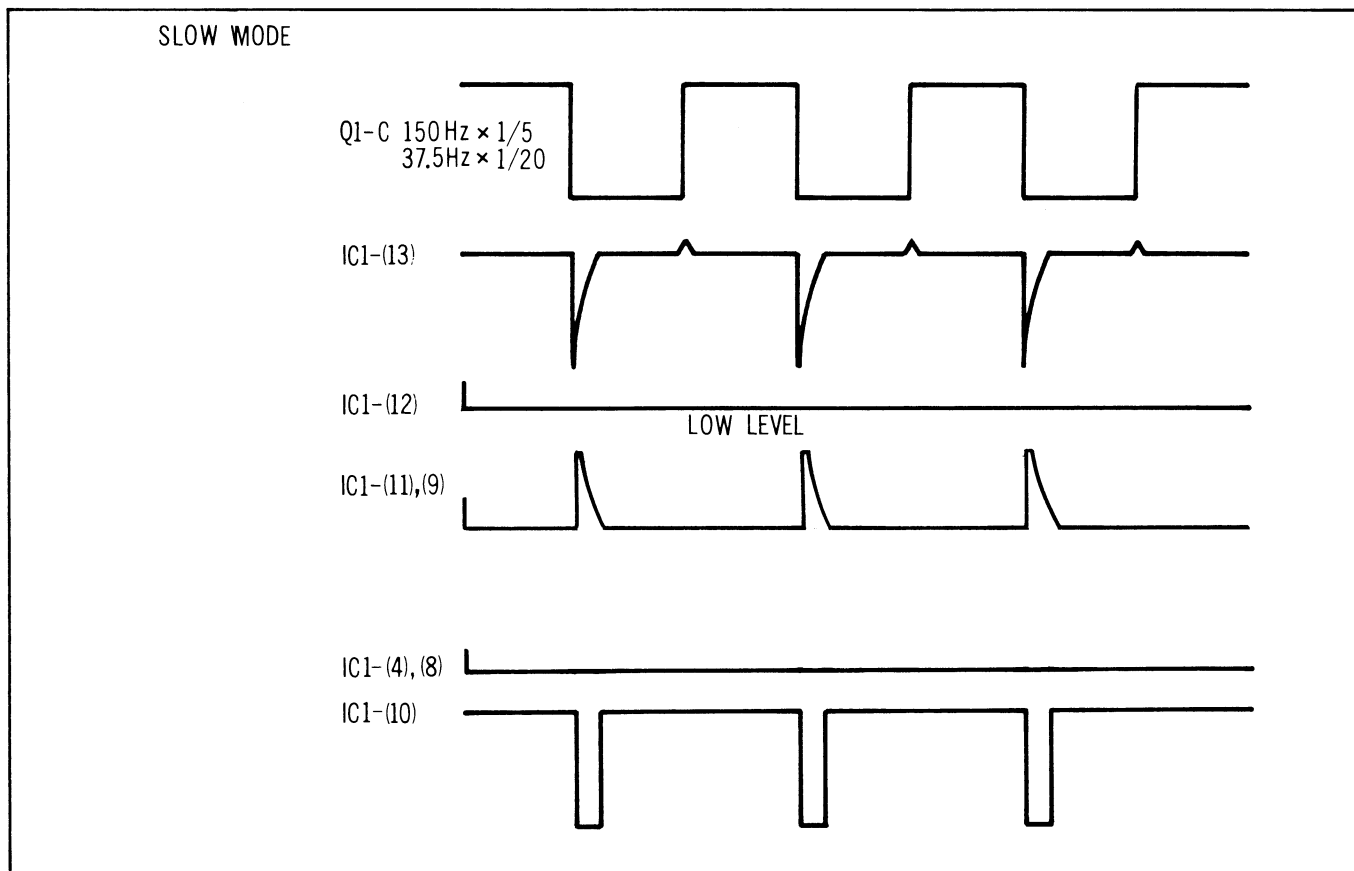

Figure 2-196
Pin 5 is High during slow, and pin 12 High during normal due to an inverting gate, IC1-(3). Since IC1-(5) is always a low level during X1 mode, a positive pulse appears at IC1-(4) when a negative pulse is supplied from differentiator C2 and R11. Then IC1-(10) provides negative pulse since IC1-(9) always maintains a low level because of the inverter IC1-(3) output to IC1-(12) which is high during X1 mode. The timing chart is shown in Figure 2-196.